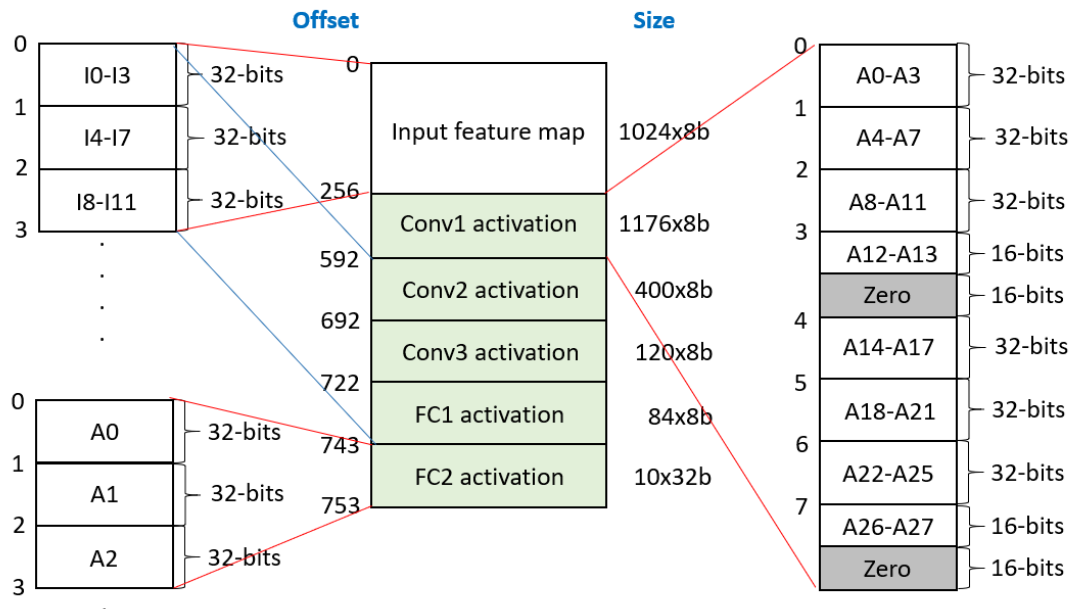

Figure 2: Layout of the activation SRAM.
4. Figure 2 shows the layout of activation SRAM. The testbench will load the **input feature map from offset 0 to offset 255 in SRAM**. Each address **holds four 8-bit inputs**. In Conv1 layer, you should place fourteen 8-bit quantized activations in every four addresses, as figure 2 shows. In this case, the computation in the following Conv2 layer may be easier. For Conv2, Conv3, and FC1 layers, you should place four 8-bit quantized data in every address for the fully-connected computation. **In the last layer, FC2, we omit the rescaling and clipping** since the classification result will not